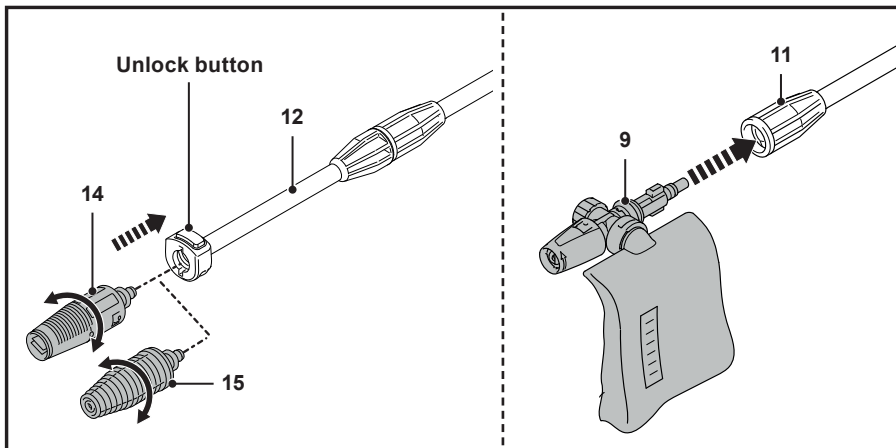

Fig. 6
1. Connect the fan stream nozzle (14) or the rotary nozzle (15) to the lower lance (12) (Fig. 6).
2. While pushing the nozzle (14/15) firmly into the lower lance (12), adjust the angle of the nozzle (14/15) until it audibly clicks into place (Fig. 6).
1. Connect the detergent attachment (9) to the upper lance (11). Ensure that the connector of the detergent attachment (9) engages into the slot on the upper lance (11) (Fig. 6).
2. While pushing the detergent attachment (9) firmly into the upper lance (11), turn the detergent attachment (9) in a clockwise direction by 90° to securely lock it in place (Fig. 6).